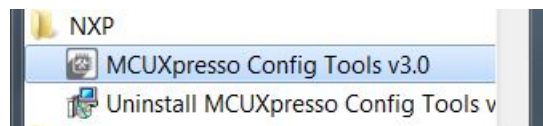

Figure 11. Windows OS start menu
1. Open MCUXpresso Config Tools in start menu, as shown in Figure 11.